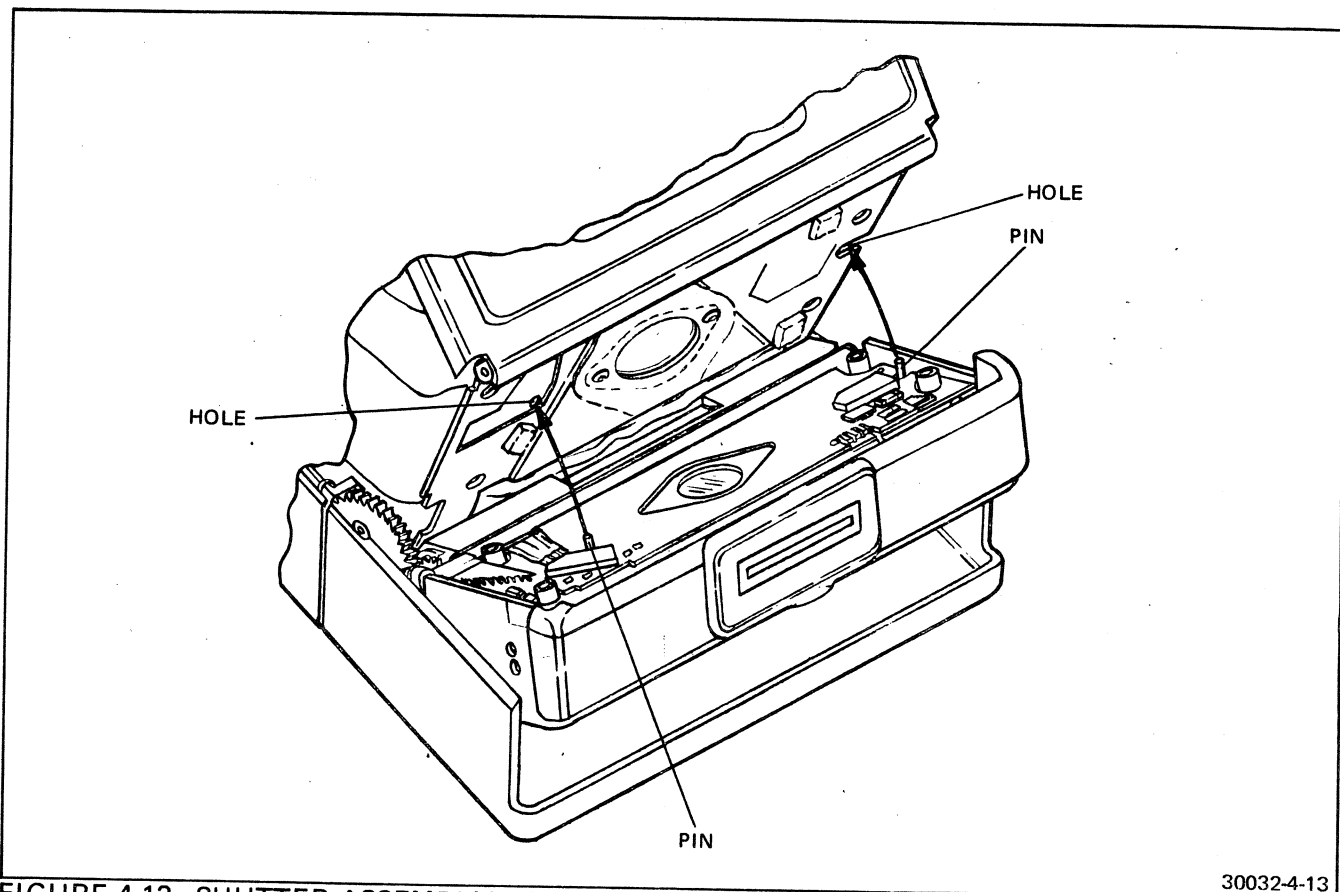

FIGURE 4-13 SHUTTER ASSEMBLY LOCATING PINS
8. Align the shutter locating pins with their holes (Figure 4-13) and install the four mounting screws.